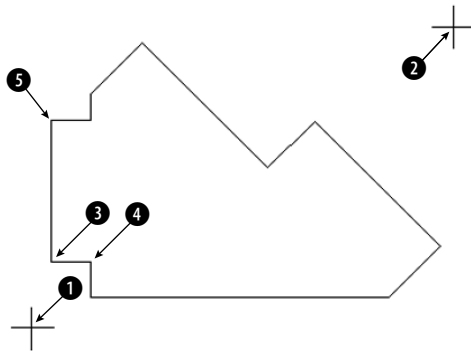

**Figure 16-38:** An unfolded sheet-metal template.
2. Save the file as **ab16-09.dwg** in your **AutoCAD Bible** folder. This is a sheet metal template as shown in Figure 16-38.
3. Make a photocopy of Figure 16-38 and tape it to the active area of your digitizer.
Digitize point #1: Pick ❶ in Figure 16-38.
Digitize point #2: Pick ❷ in Figure 16-38.
7. In Figure 16-38, pick ③ with the digitizer, then ④, and then each line endpoint in turn, counterclockwise around the figure.
8. After you reach ⑤, do not digitize point ① again. Instead, type `c ↵` to close the figure exactly.